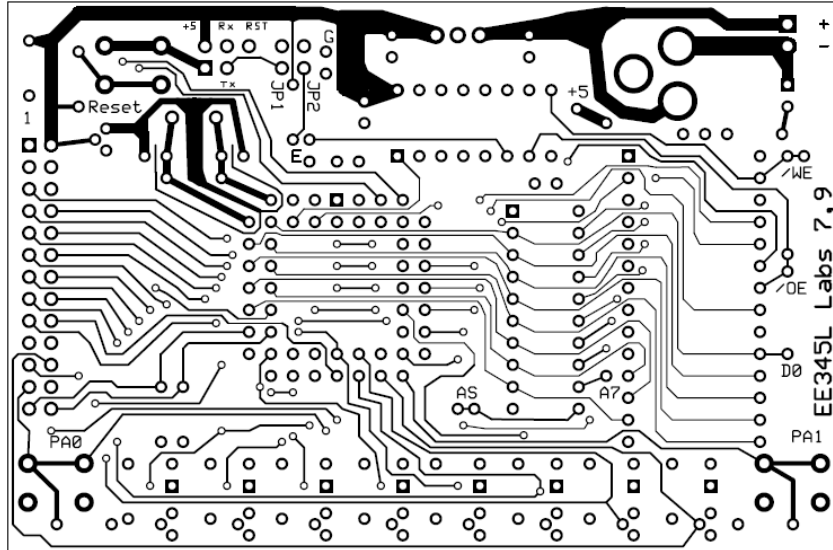
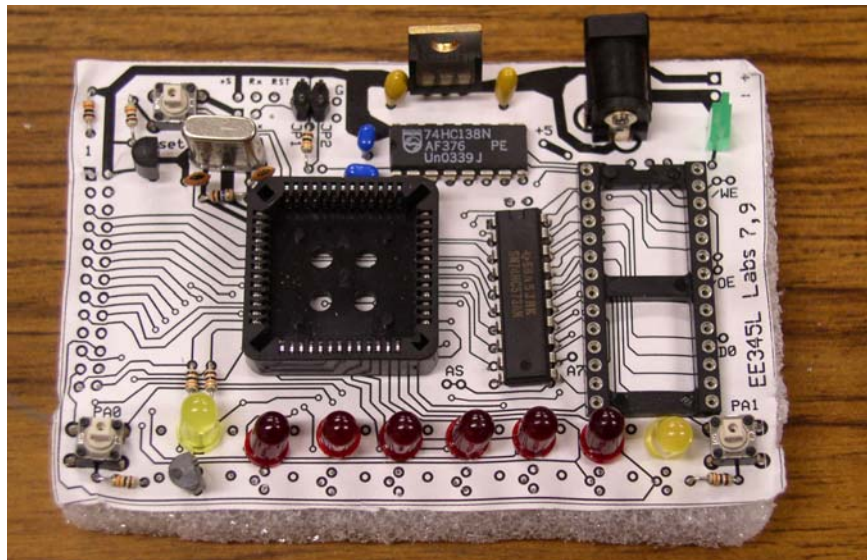

Figure 8.1. Example ExpressPCB printout of top copper layer (notice the test points for ground, power, E, AS, /WE, /OE, D0 and A7).
Figure 8.2. Example mockup of layout using Styrofoam.
You should print both sides of the PCB layout (without the mask). See Figure 8.1. Create a mirror image of the bottom layer and glue/attach the two pieces of paper to Styrofoam, cardboard, or wood. You will have to punch or drill holes in order to place components on this simulated “PCB”. Create a complete 3-D mockup of the system placing the actual components on this paper/cardboard “PCB”. See Figure 8.2. 3-D spacing will be critical if the system will be placed in a box. **ExpressPCB** will make three identical PC boards, one for each group of 2. See Figure 8.3.
- 16) Here are a few tips when things get tight. Notice in Figure 8.1 and 8.3 that two traces go between two 6811 pins. This was performed using 0.007 in traces and temporarily disabling snap to feature. For example, assume the 6811 pins are at y=1.30 and 1.40 inches. You can double-click one end of the 0.007 trace and manually set the y location to 1.34. Double click the other end and set it also to 1.34. For the second trace, double-click its ends and manually set their y location to 1.36. A second tip when things get crowded is to shrink the size of the vias. A via is a connection from top to bottom that will not be holding any physical component like a resistor or chip. The default size of the via is large and you can double click the via and reduce it to 0.0031 in via with 0.0014 in hole. It warns the via may be filled, but that is OK (do not reduce the size of any hole that will be accepting a physical component.)